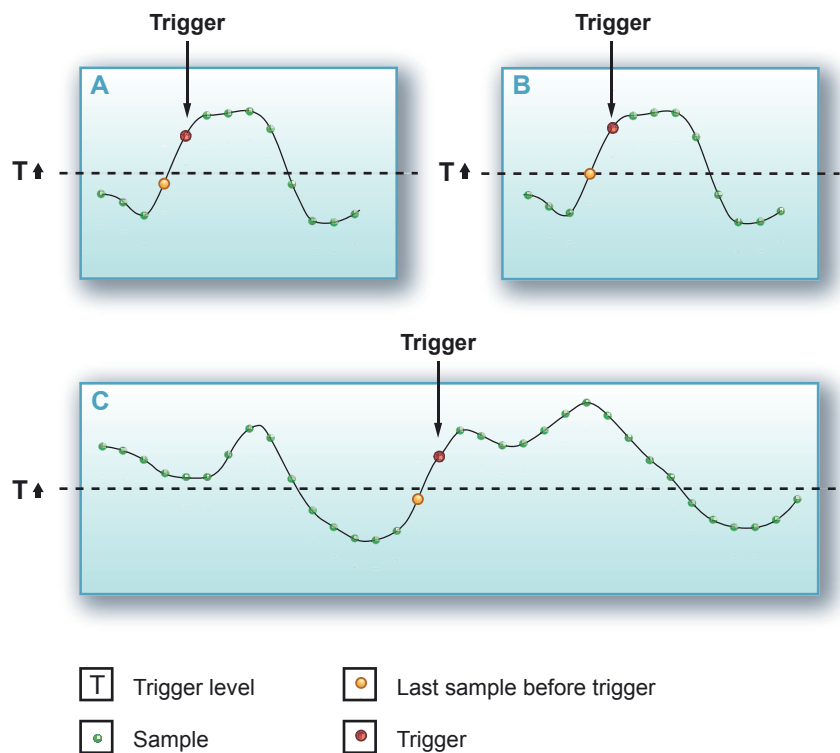

Figure 10.2: Level crossing detector
Figure 10.2 shows the basic trigger mode with a specified level (T) and a level crossing in a positive direction. In Figure 10.2 (A), the trigger occurs on the first sample after the level crossing. In Figure 10.2 (B) shows the situation in which a sample equals the set level. Trigger does not occur until a sample is actually above the required level.
Since the trigger detector requires a level crossing, no trigger occurs when a signal is above the set level when recording starts. This is depicted in Figure 10.2 (C).